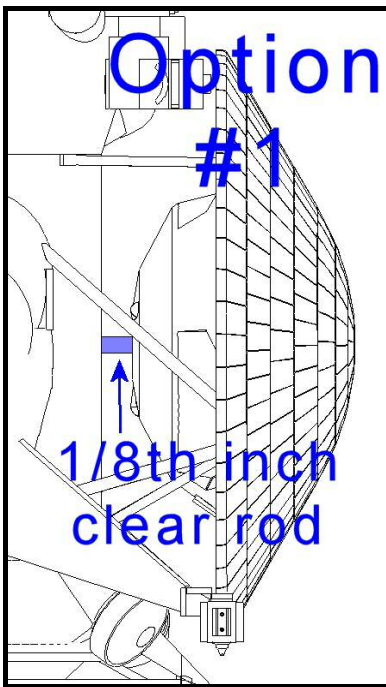
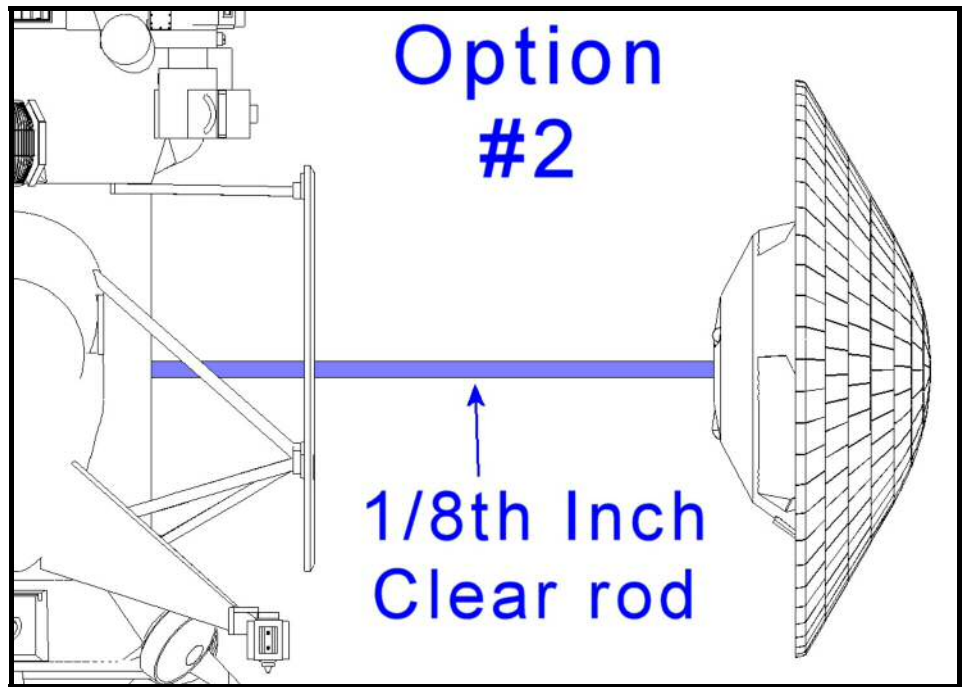

Figure 125
Figure 126
Step 120 has two optional ways to mount the probe assembly to the spacecraft body. The first method is simply to add strength to the completed assembly. Find the 1/8th round clear acrylic rod and glue through the center hole of the Aeroshell and seat into the mounting cup on the inside of the Heatshield. When mounted, as in Figure 125, the rod will glue into the hole in the body. The second method uses the entire length of the rod to mount the Probe as if it had just been released a few seconds earlier, as shown in Figure 126.